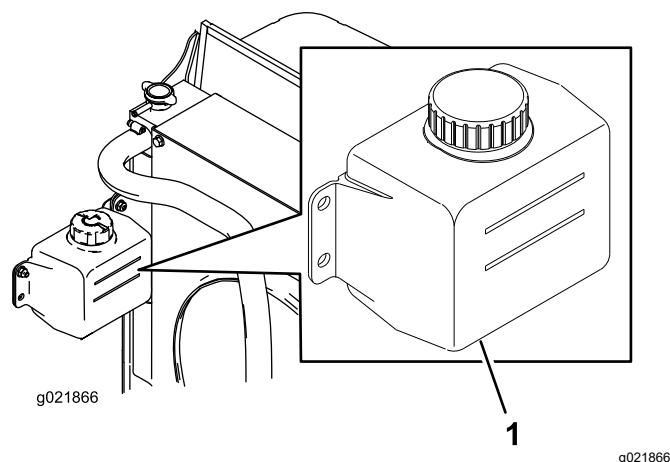

Figure 93
1. Check the level of coolant in the expansion tank (Figure 93).